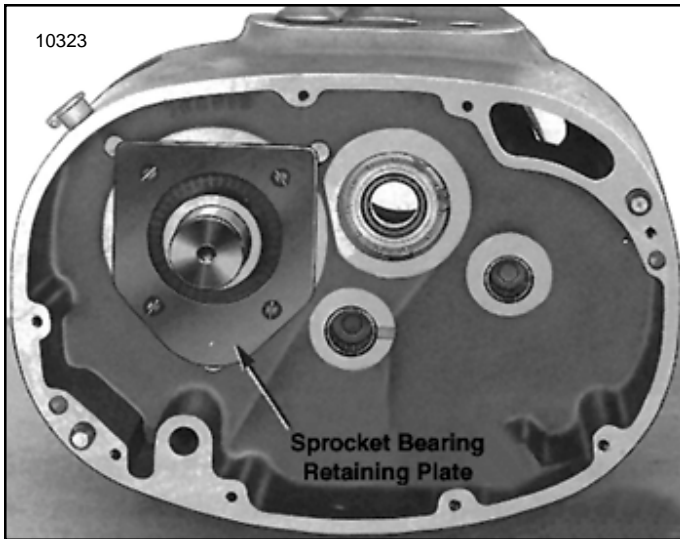

Figure 7-11. View of Sprocket Bearing Retaining Plate
- (2) Unscrew four fillister head machine screws securing sprocket bearing retaining plate and remove plate (fig. 7-11). Remove and discard ring gasket from groove around bearing.